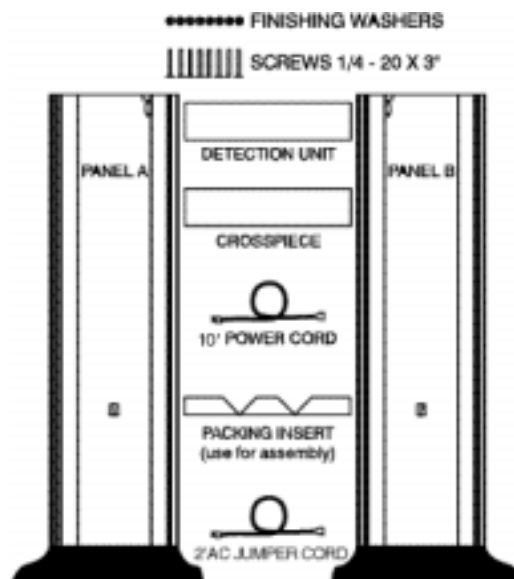

Figure 3-1
2. Arrange the major components as shown in Figure 3-1.